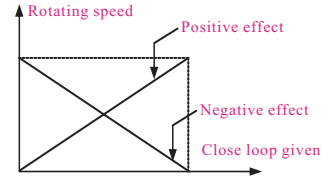

Fig. 6-34 Close loop adjustment characteristic
- (1) Determine close loop given and feedback channel (P7.01, P7.02).
- (2) Analog close loop needs to set the relationship between close loop given and feedback (P7.06~P7.09).
- (3) Determine close loop adjustment characteristic (P7.14), shown as Fig. 6-34.
- (4) Set close loop preset frequency function (P7.16~P7.17).
- (5) Set close loop filtering time, sampling period, limit deviation, gain coefficient (P7.03, P7.04, P7.12, P7.13)